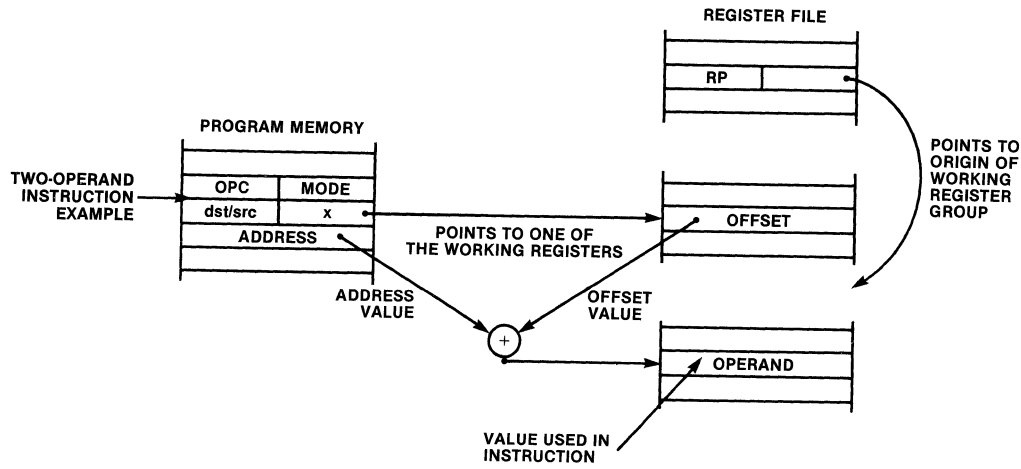

Figure 4-5. Indexed Addressing
used by the instruction (Figure 4-5). This address mode is used only by the Load (LD) instruction to address the register file.